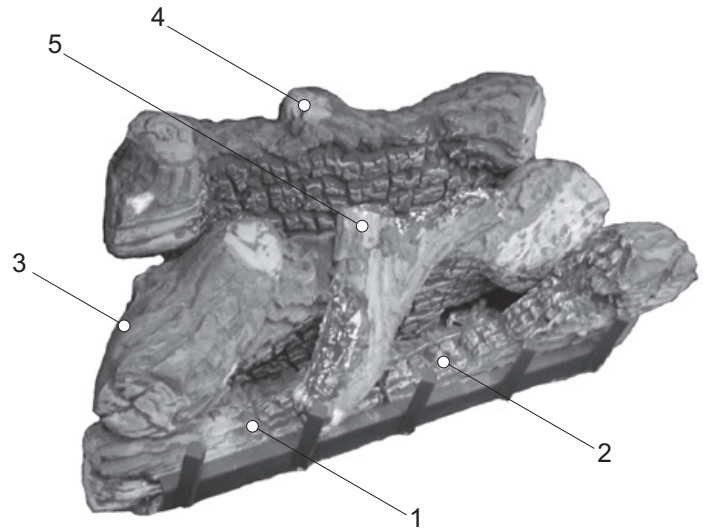
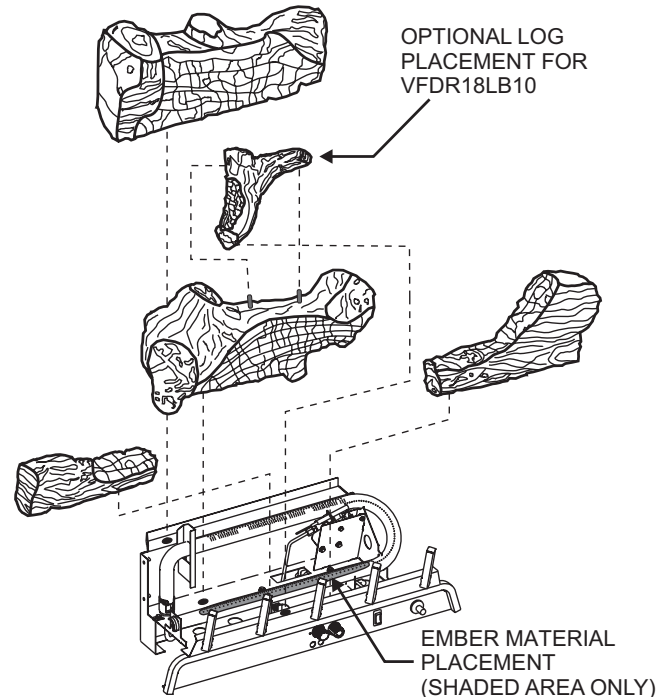
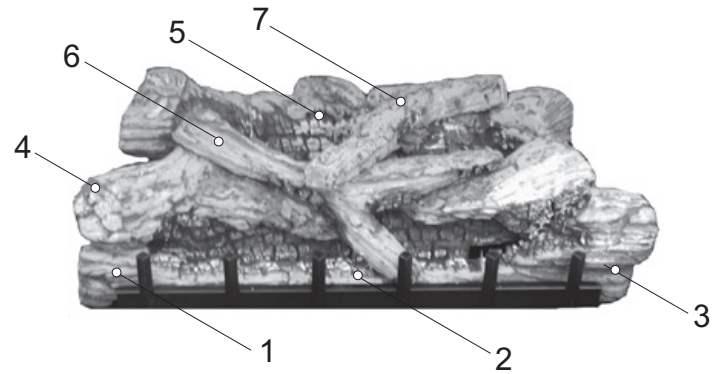
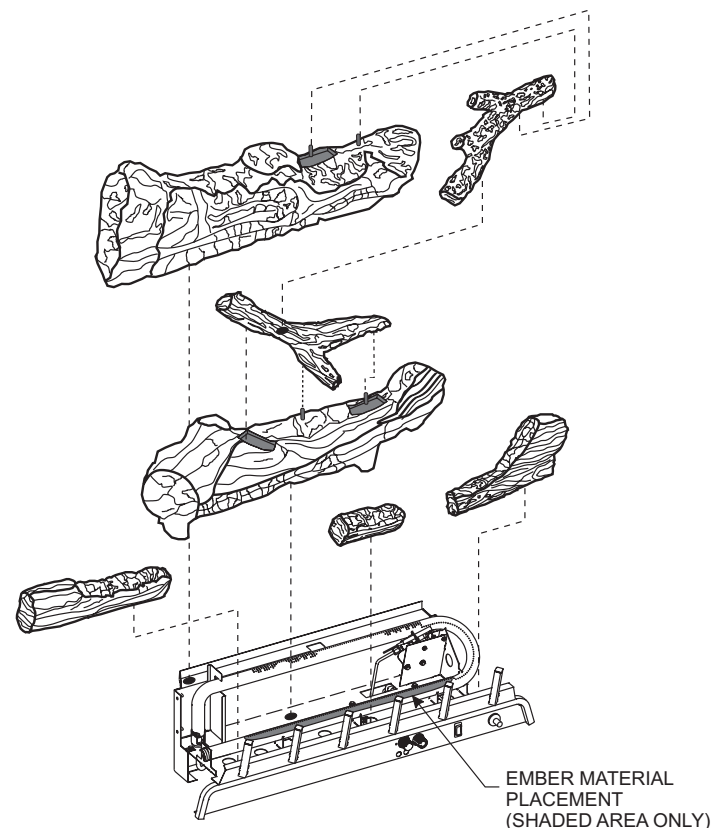

Figure 11
Figure 12
Figure 13
Figure 14
The positioning of the logs is critical to the safe and clean operation of this burner assembly. Sooting and other problems may result if the logs are not properly and firmly positioned on the burner assembly. Refer to **Figure 11** and **Figure 12** and corresponding **'WARNING:'** when completing following log placement instructions.
5. After all logs are positioned properly, apply Rockwool ember material to the front burner port area. To apply, carefully separate the ember material into small amounts no larger than "dime size" pieces. Fluffed up pieces one layer thick on top of the burner generally works best, and will provide the best ember glow. Do not place ember material more than one layer thick. No more than (2) two small packets of ember material (part no. 15998) evenly placed on the burner, is recommended on VFDR18 and VFDR24 models. Using additional ember material will decrease the amount of ember glow effect. Extra ember material should be saved for future ember applications as necessary. **See Figure 12.**
**Attention:** Do not use Figure 12 or Figure 13 to order logs. Refer to Parts Lists and Parts Views to order logs and/or ember material for your appropriate model.
The positioning of logs is critical to safe and clean operation of this burner assembly. Sooting and other problems may result if the logs are not properly and firmly positioned on the burner assembly. Refer to **Figure 13** and **Figure 14** and corresponding **WARNING**: when completing following log placement steps.
6. After all logs are properly positioned, place small "dime" size pieces of Rockwool lightly across the front burner tube ports. Place the ember material (Rockwool pieces) side by side. Do not stack more than one layer of embers across the burner ports. No more than (1) one packet of ember material (part number 15999) evenly placed on the burner, is recommended on VFDR30 models. See **Figure 14**.
**Attention:** Do not use Figure 13 or Figure 14 to order logs. Refer to Parts Lists and Parts Views to order logs and/or ember material.